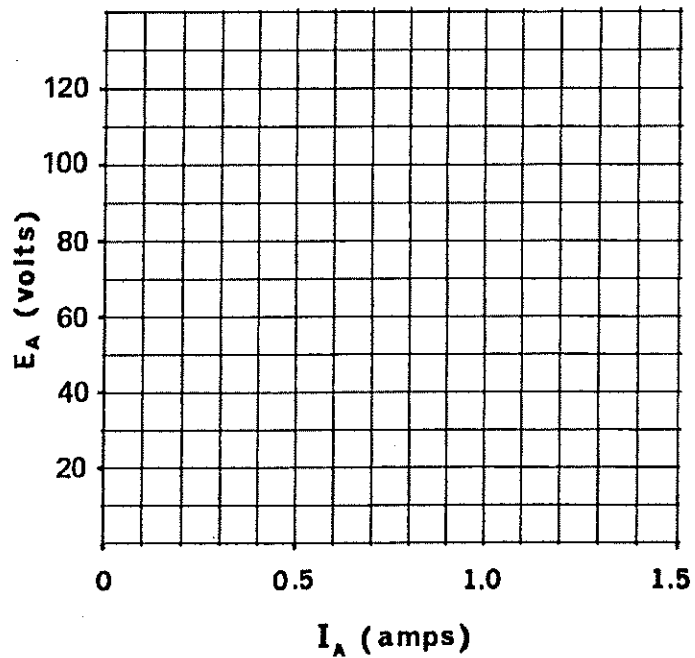

Figure 9-4.
- Plot the E_A vs I_A regulation curve on the graph of Figure 9-4. Use the data from Table 9-2.